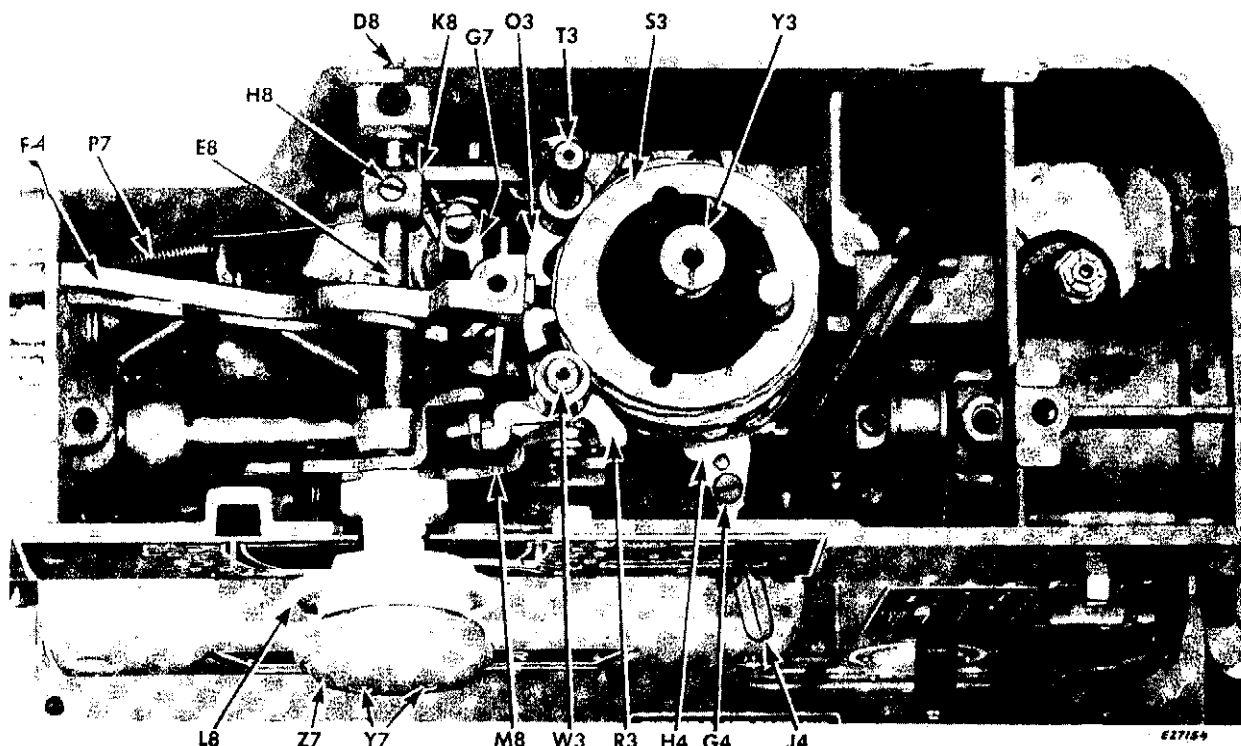
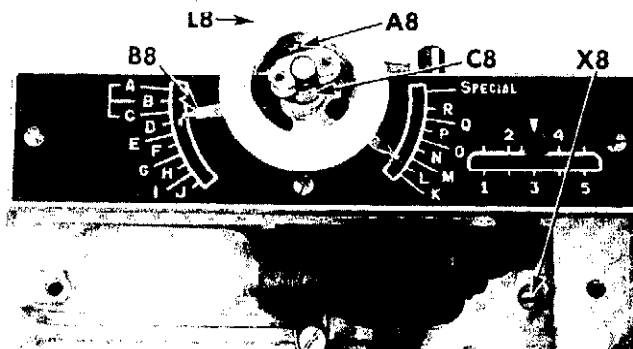
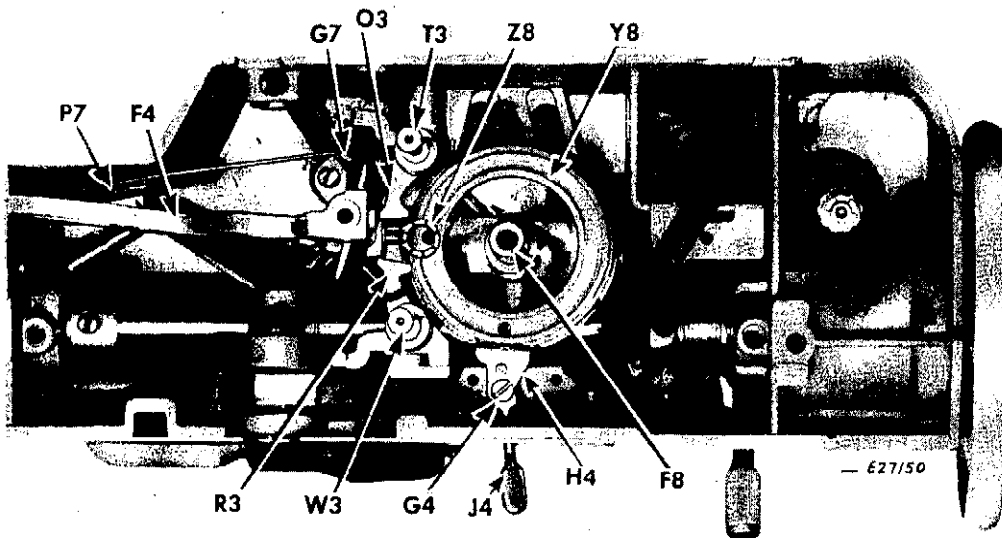

Fig. 321. Cam Stack and Selector Arm Shaft
Fig. 322. Removing Selector
Fig. 323. Showing Location of Ball Pivot on Driving Arm
3. Remove large screw stud **Y3**, Fig. 321 with spring and remove cam stack **S3**.
2. Remove two screws **Y7** and knob **Z7**, Fig. 321.
3. Remove screw **A8**, indicator **B8** and spring **C8**, Fig. 322.
4. Remove screw **D8**, Fig. 321, at rear of selector arm shaft **E8**.
5. Remove screw **H8** and withdraw shaft **E8** from front of arm, releasing rear selector arm **K8**, and front selector arm and knob **L8**, Fig. 321.
7. Remove followers **O3** and **R3**, Fig. 321.
1. Replace followers **O3** and **R3**, as shown in Fig. 321.
2. Replace knob **L8** so that bracket on front selector arm **M8** slides into its slot in front follower **R3**, Fig. 321.
3. Replace selector arm shaft **E8** slipping it through front selector arm knob **L8** and rear selector arm **K8**, Fig. 321. Make certain that bracket on rear selector arm **K8** slides into its slot in follower **O3**.
4. Replace and securely tighten screw **H8**, Fig. 321 so that screw clamps down on counterbore on shaft.
5. Replace spring **C8** and indicator **B8**, Fig. 322. Fasten with screw **A8**, Fig. 322.
6. Replace screw **D8**, Fig. 321 on rear of arm selector shaft.
7. Replace knob **Y7**, Fig. 321. Fasten knob to indicator **B8**, Fig. 322 with two screws **Z7**, Fig. 321.
4. Lift needle bar driving arm, **F4**, **Fig. 323** from machine.
machine, so that ball pivot **Z8**, **Fig. 323** rides in socket provided for it in pattern selector **Y8**, as shown in **Fig. 323**.
CAUTION: Make certain tension arm **G7**, **Fig. 323** is in correct position in relation to needle bar driving arm, as shown in **Fig. 323**.
(See Fig. 323)
3. Remove spring **P7**, **Fig. 323**.
6. Loosen set screw **X8**, **Fig. 322**, **page 158** and remove entire cam stack assembly **S3** with worm wheel eccentric shaft **F8**, **Fig. 323** and screw stud **Y3**, **Fig. 321**, **page 158**.
2. Make certain that needle bar driving arm ball bearing pivot **Z8** is engaged with pattern selector, as shown in **Fig. 323**.
5. Tighten set screw **X8**, **Fig. 322** at front of machine arm.
6. Replace spring **P7**, **Fig. 323**.